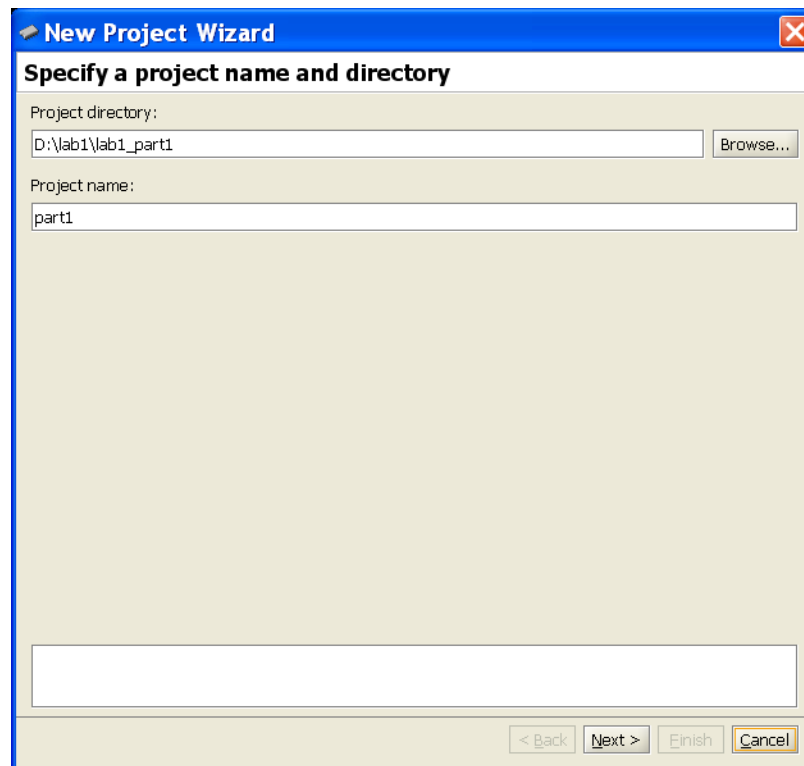
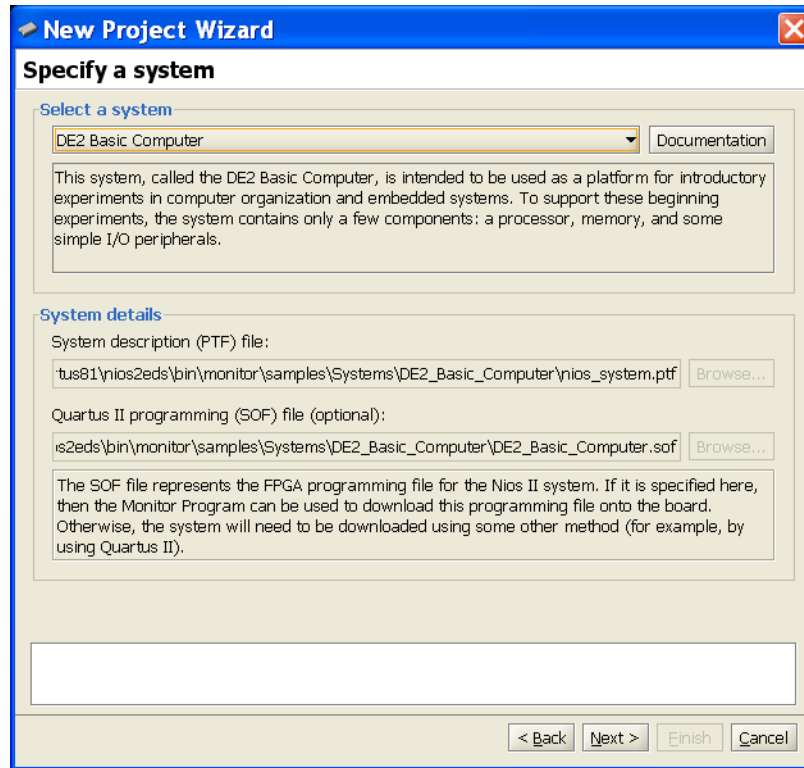
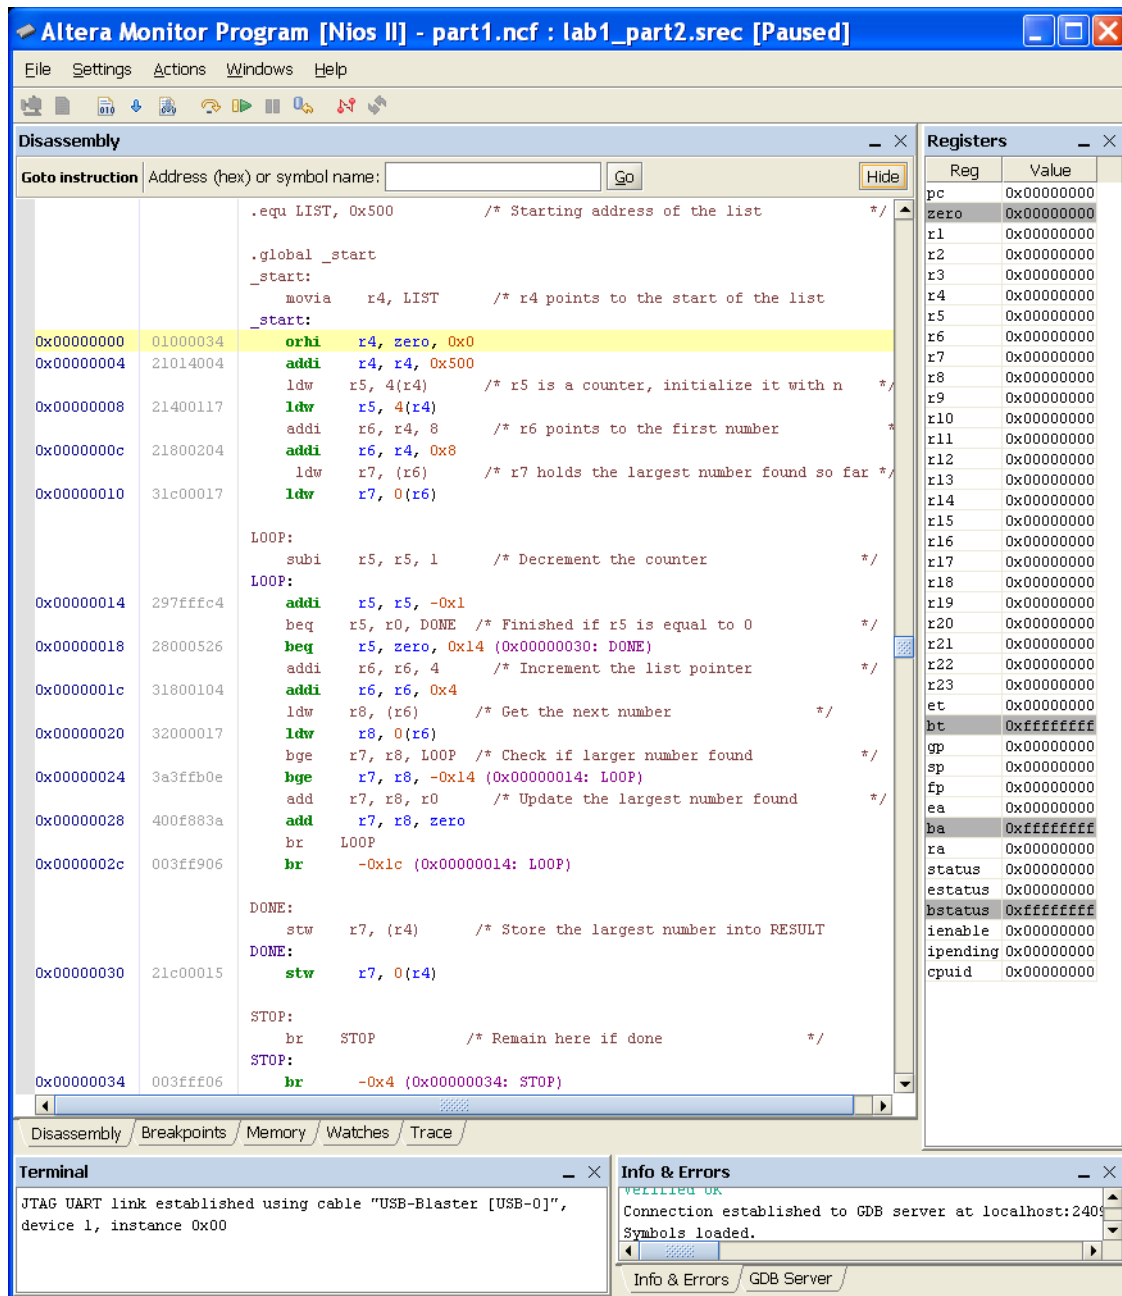

Figure 2. Specify the directory and the name of the project.
Figure 3. Specification of the system.
Figure 13. The disassembled view of the program in Figure 10.
To run an application program it is necessary to create a new project. Select **File > New Project** to reach the window in Figure 2. Give the project a name and indicate the directory for the project; we have chosen the project name *part1* in the directory *lab1\_part1*, as indicated in the figure. Click **Next**, to get the window in Figure 3.
5. The Monitor Program will display the disassembled view of the code loaded in the memory, as indicated in Figure 13. Note that the pseudoinstruction **movia** in the original program has been replaced with two machine instructions, **orhi** and **addi**, which load the 32-bit address LIST into register *r4* in two 16-bit parts (because an immediate operand value is restricted to 16 bits). Examine the disassembled code to see the difference in comparison with the original source program. Make sure that you understand the meaning of each instruction. Observe also that your program was loaded into memory locations with the starting address zero. These addresses correspond to the SDRAM memory, which was selected when specifying the system parameters. The DE2 Basic Computer has two more memories which are the *on-chip* memory (i.e. the memory on the FPGA chip) and the SRAM chip on the DE2 board. See the document *Basic Computer System for Altera DE2 Board* for full information. This document can be accessed by clicking on the Documentation button in Figure 3.